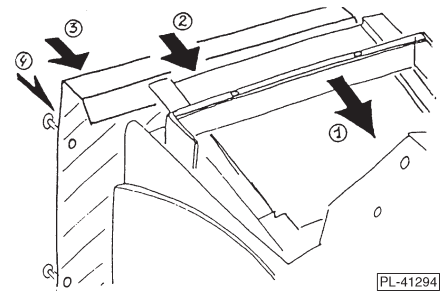

Fig. 17
4. Reinstall the Rear Table and Rear Panel (Fig. 17):